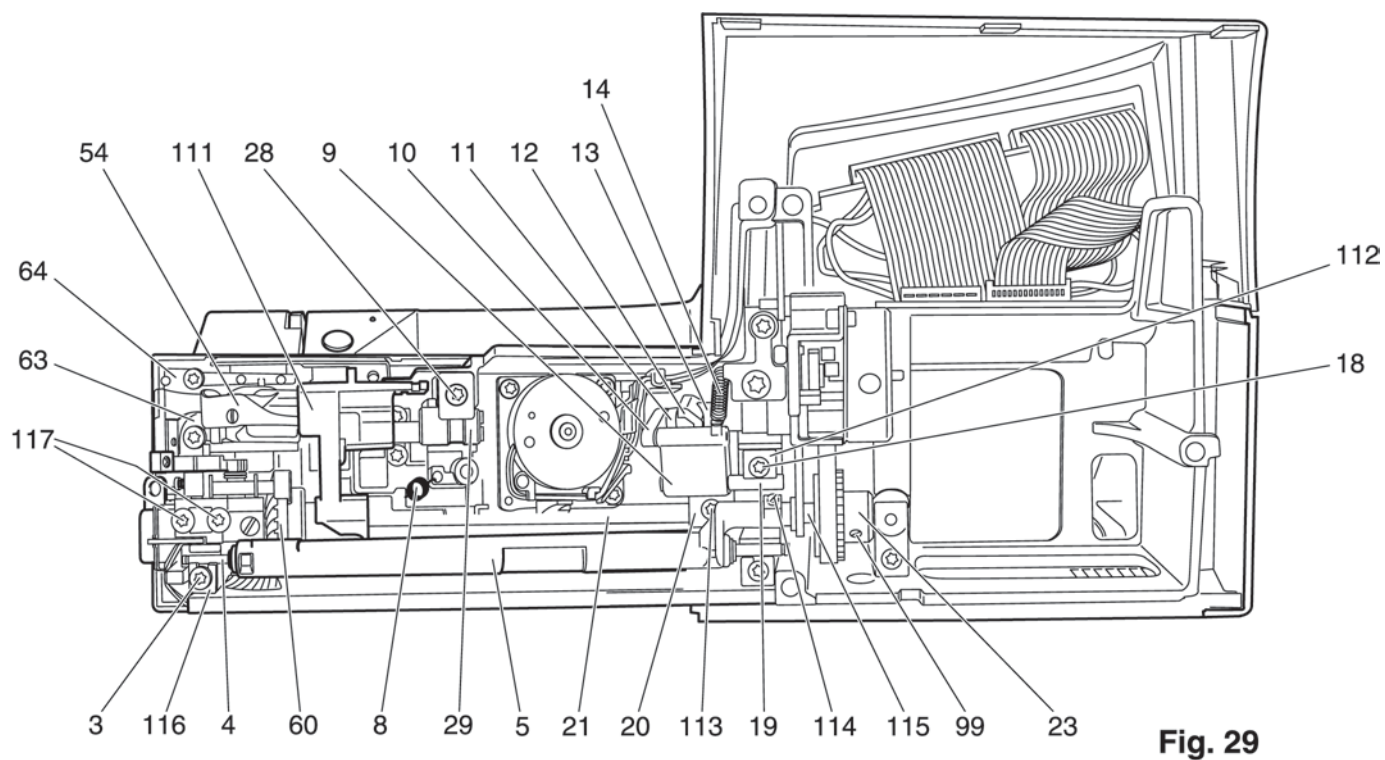

Fig. 29
- Disconnect both tension springs 8 and 14 (fig. 29).
- Move hook-driving shaft 21 as far as possible to the right (fig. 29).
- Mount the sewing hook bearing with both screws 117 (fig. 29)
- Screw dog-point screw 113 into feeding eccentric 20 and/or hook driving shaft 21 (fig. 29).